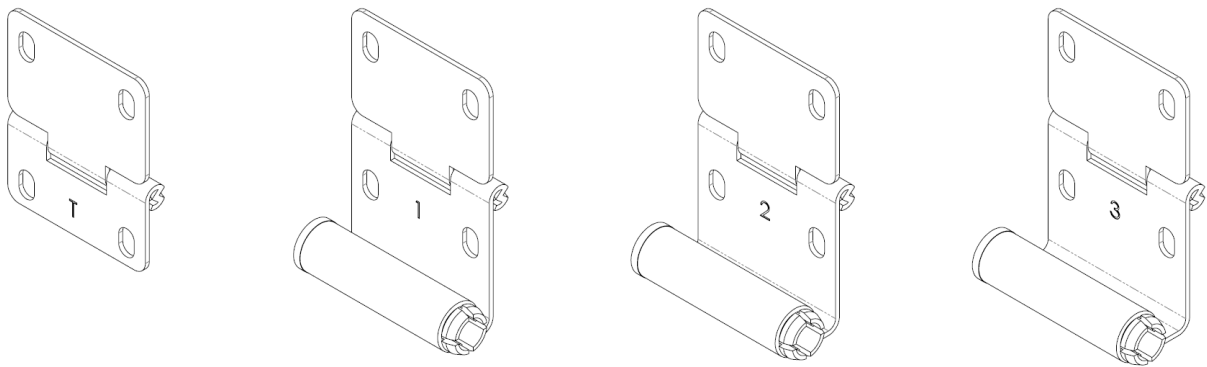

Figure 9
d. Attach #1 End hinge (Figure 9) on each top corner of bottom panel and centre hinges to other stiles. (Doors with double end-stiles to have an extra end hinge at each position)